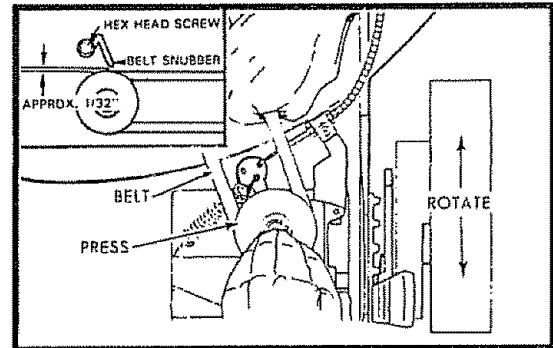

FIG. 12
- Remove drive cover. Remove belt by pushing down on gear case pulley (See Fig. 12).
- Loosen hex head screw and move belt snubber away from pulley (See Fig. 12).